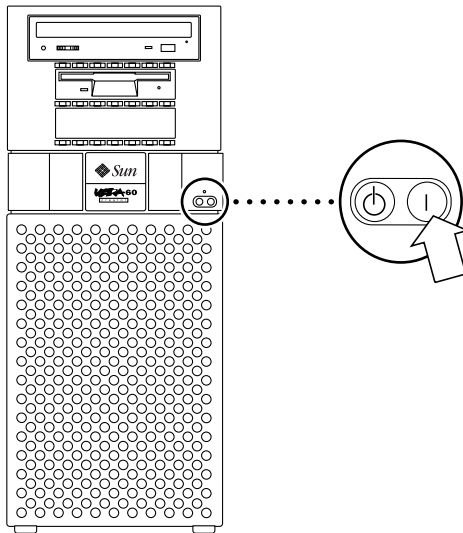
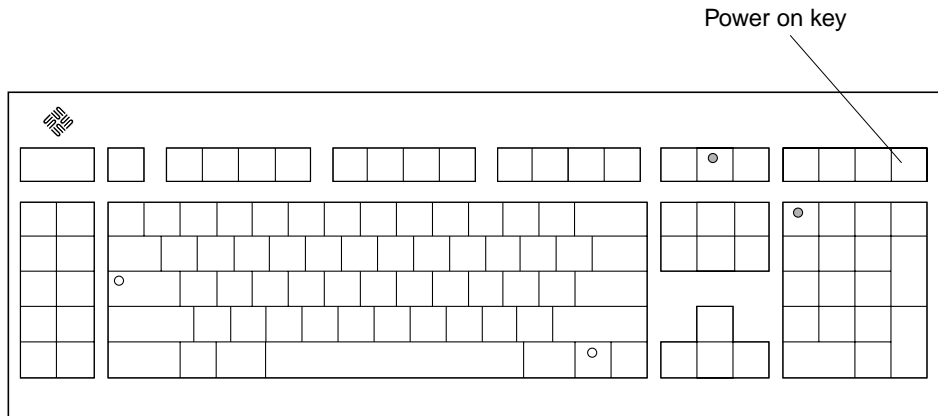

FIGURE 3-6 System Unit Power-On (Front Panel)
FIGURE 3-7 Sun Type -5 Keyboard
3. Set the front panel power switch to the On position (FIGURE 3-6) or press the Sun Type-5 keyboard power on key (FIGURE 3-7).